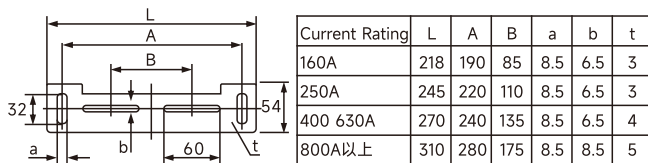

Figure 1: Dedicated Mounting Base
1. Dedicated Mounting Base (Refer to Figure 1, Table 2)